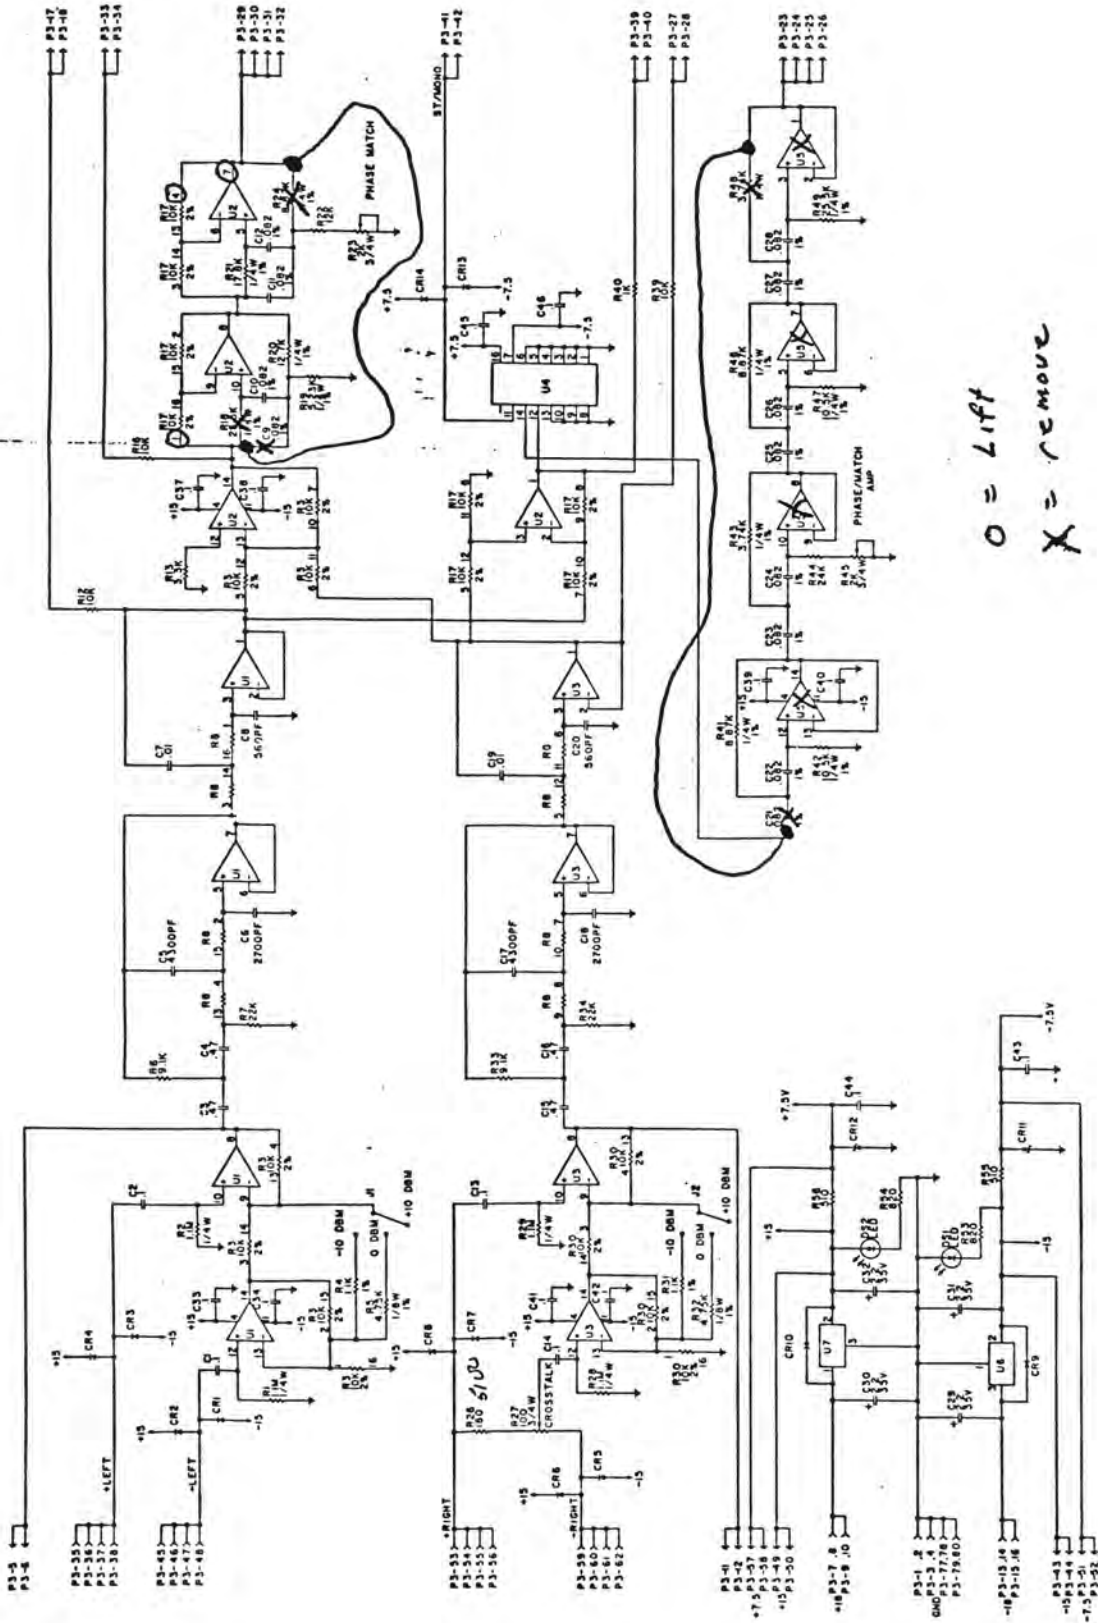

FIGURE 8-1. SCHEMATIC
- 4) Solder jumper wire from U2-pin 14 to the circuit formerly connected to U2-pin 7 using PC pads for C9 (removed) and R24 (removed). (Bottom hole of C9 to bottom hole of R24.) Refer to Figure A and Figure 8-1.
- 5) Solder jumper wire from U4-pin 14 to U5 socket pin 1 using PC pads for C21 (removed) and R48 (removed). (Bottom hole of C21 to bottom hole of R48.) Refer to Figure A and Figure 8-1.